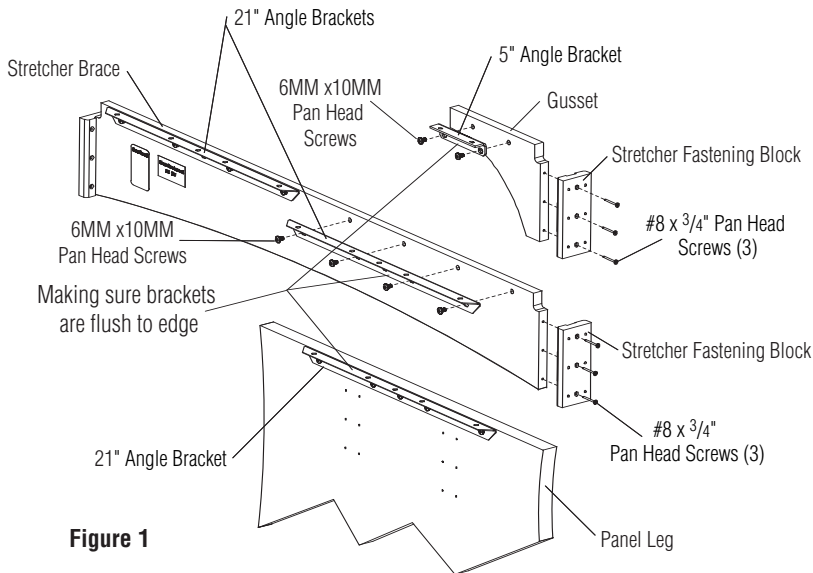

Figure 1
1. Attach stretcher fastening blocks to the stretcher brace and gussets by placing in slot and fasten with #8 x 3/4" screws (Figure 1).